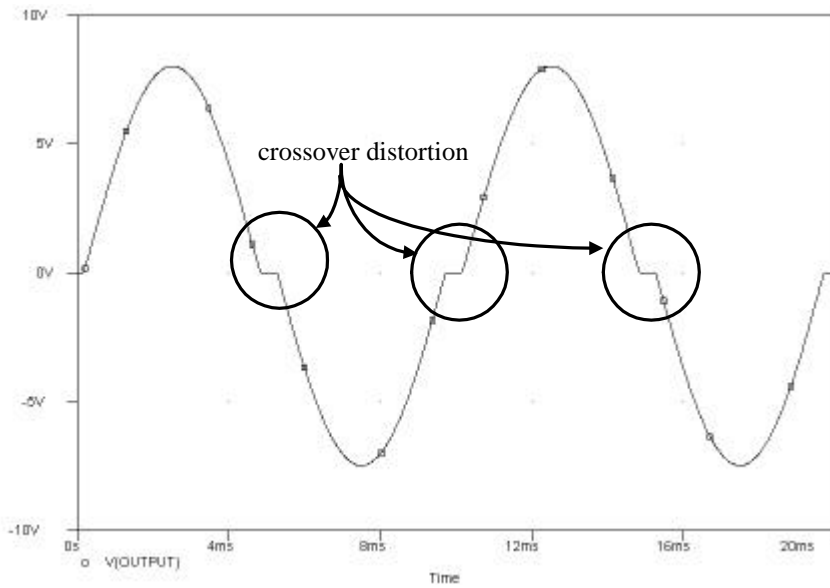

Figure 5-18 Properly biased class B amplifier shows crossover distortion
2. The composite waveform is shown in Figure 5-18. When the input falls below a few volts, the voltage on the *n*-channel MOSFET's gate drops below V_{th} and the transistor turns off. That's too early. The *p*-channel MOSFET does not turn on until the input is a volt or two negative. That's too late. The result is a flat spot on the output as the input crosses 0 V . This is the result of the 2 V to 4 V threshold variation. Biasing at $\pm 2\text{ V}$ assures that all versions of the transistor are off. But that conservative practice may then require some of the input signal to bring the transistors into full conduction.